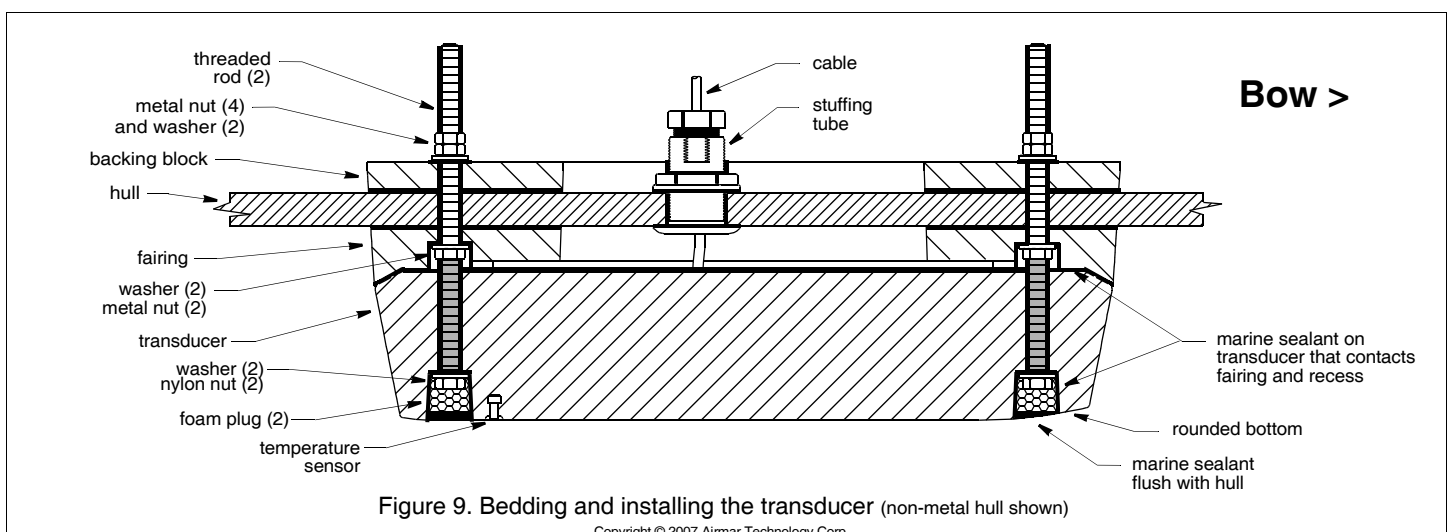

Figure 9. Bedding and installing the transducer (non-metal hull shown)
1. Apply a 2mm (1/16") thick layer of marine sealant to the surface of the transducer that will contact the fairing including the recesses for the washers and nuts (see Figure 9).